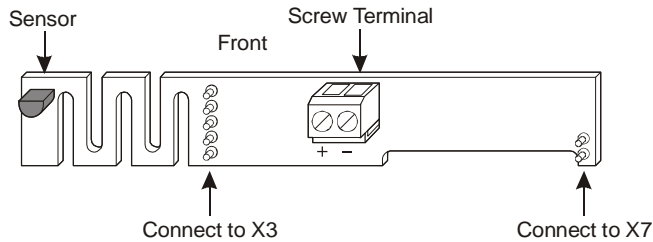

Figure 10: Temperature Module (Front View)
Model CD-WA0-00-0 is shipped with a temperature module. Observing polarity, connect the temperature output wires to the screw terminals marked + and – (see Figure 10).
2. Observing polarity, connect a voltmeter across the screw terminals marked + and – (see Figure 10).
4. Apply heat to the temperature sensor by gently holding it between a finger and thumb (see Figure 10).